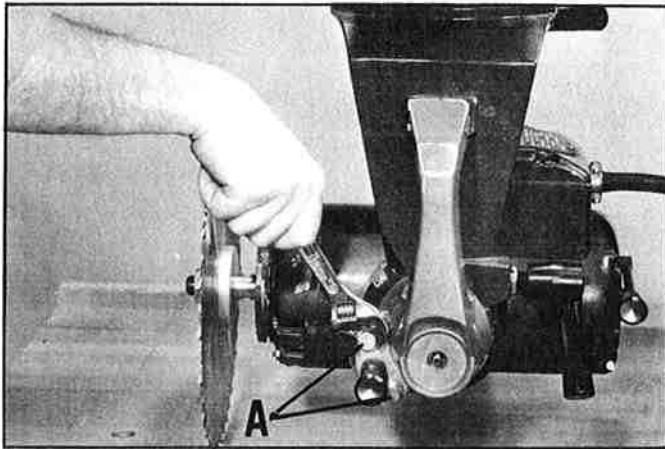
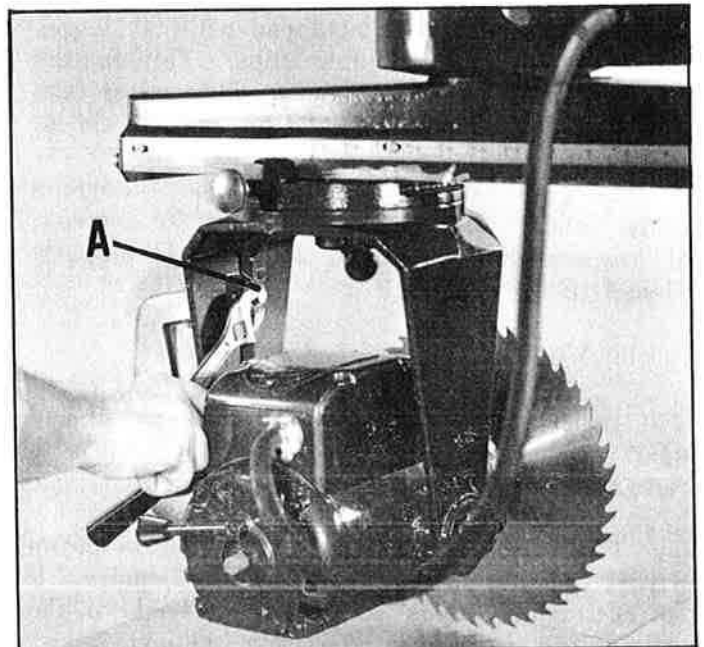
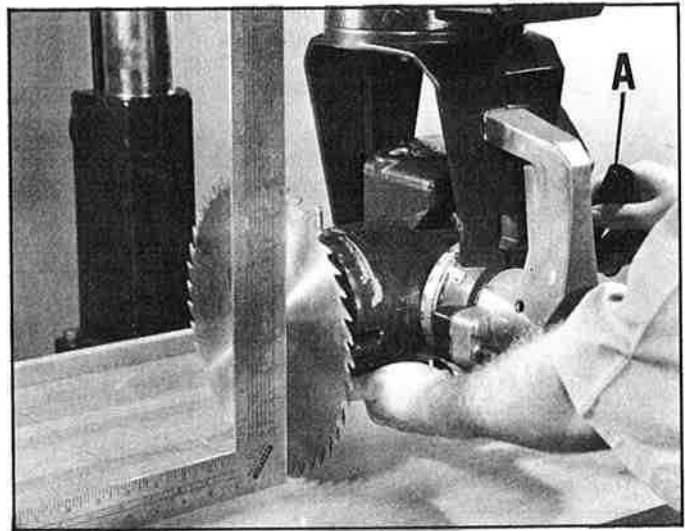

Fig. 22
Fig. 23
Fig. 24.
3. If the blade is not square with the table, an adjustment is necessary. Loosen the two bolts (A) Fig. 22.
4. Loosen bolt (A) Fig. 23, located on inside of yoke.
5. Hold the cuttinghead with your left hand, loosen the bevel clamp handle (A) Fig. 24 and tilt the motor until the square is flush against the saw blade.
6. When the adjustment is completed tighten the bevel clamp handle (A) Fig. 24, and the two bolts (A) Fig. 22 and bolt (A) Fig. 23.